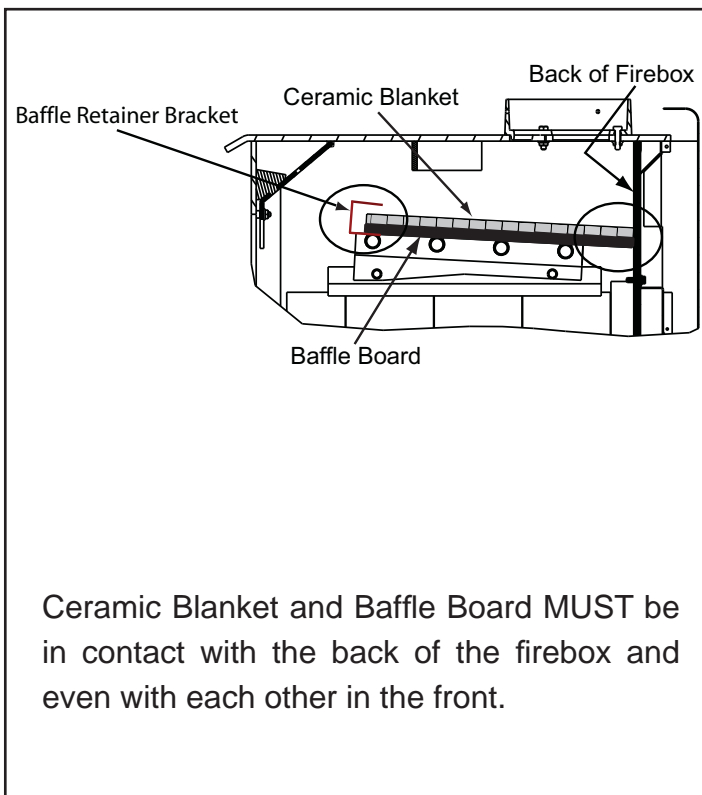

Figure 11.1 - Correct Baffle and Blanket Positions
1. Confirm the baffle and ceramic blanket are correctly positioned. See **page 11** for detailed diagrams. They should be even with the front tube and resting on both tubes. **Figure 11.1.**